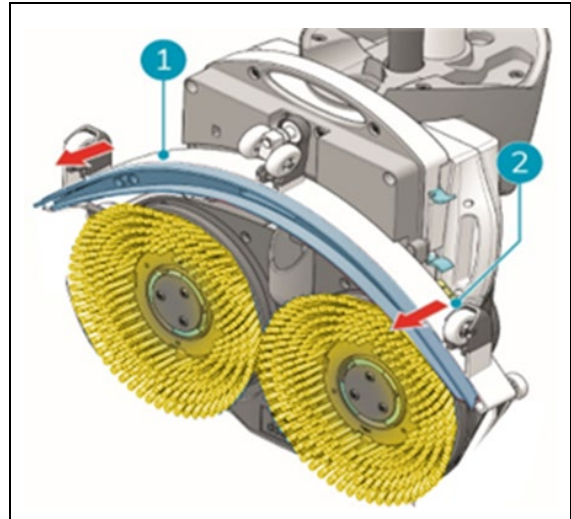

Figure 40
3. Pull on the left side of the squeegee to remove it (Figure 40, pos. 1).
4. Pull on the right side of the squeegee to remove it (Figure 40, pos. 2).